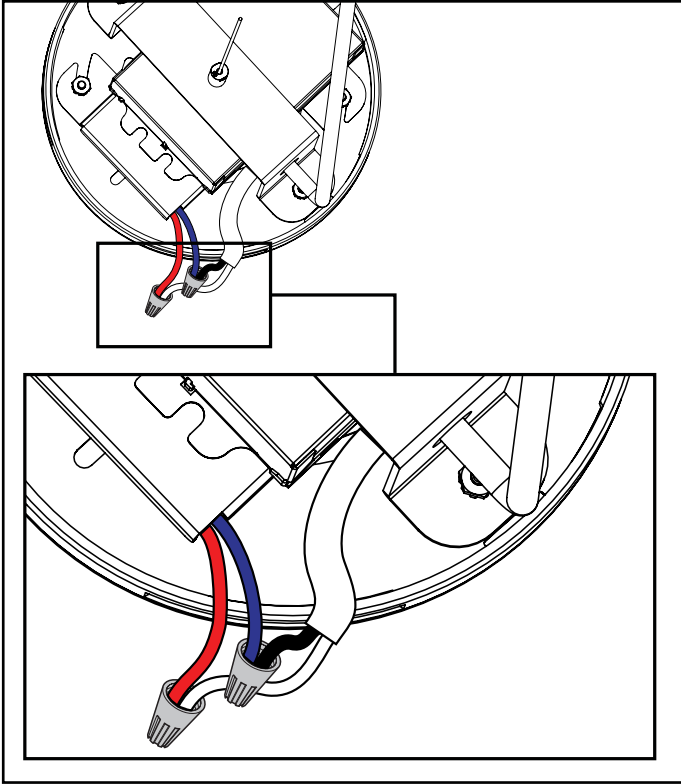

Figure 9
11. Connect the low voltage power cord as shown in the wiring diagram and in Figure 9. Make sure that other end of the low voltage power cord passes through the hole in the canopy. (Figure 9)